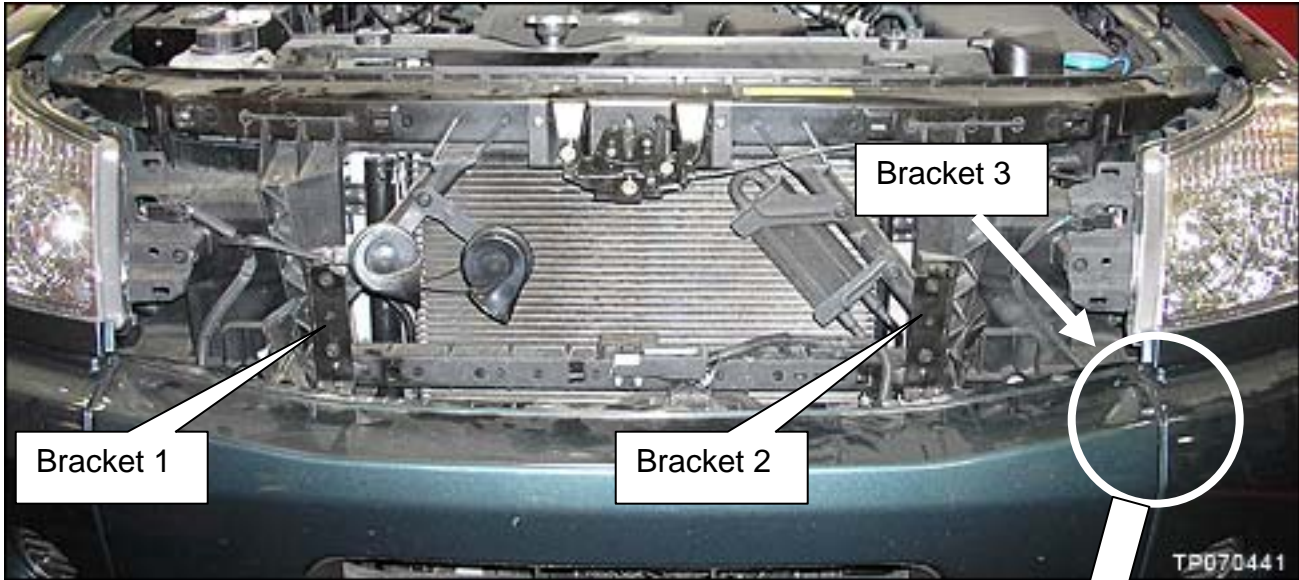

Figure C-23
c. Install and Torque 2 bolts at each of the 3 bumper brackets as shown (see Figures C-23 and C-24).